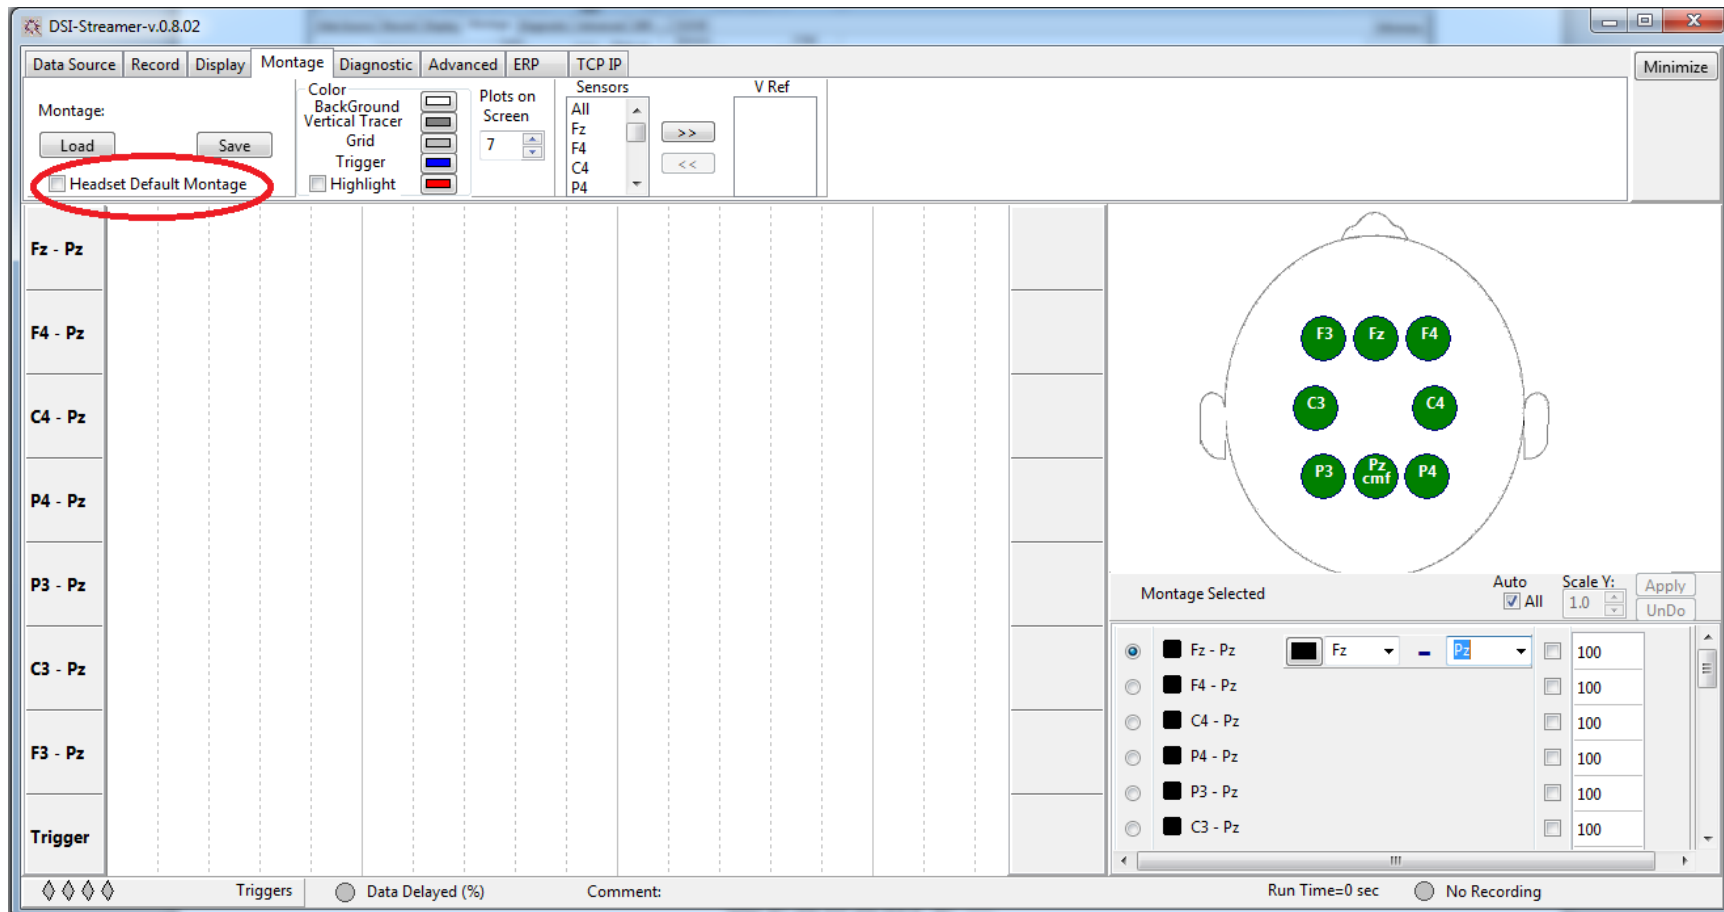

Figure 30 – Montage tab showing default montage for DSI-7.
The montage is the selection of EEG channels, or combinations of EEG channels, that are displayed on the screen during data streaming or playback. Montages can be created or selected using the **Montage** tab in the main window (Figure 30).
- **Headset Default Montage Checkbox (circled in Figure 30 in red)**
In Figure 30, channel 1 has been assigned Fp1-Pz and is being re-assigned to Fp1-C3.